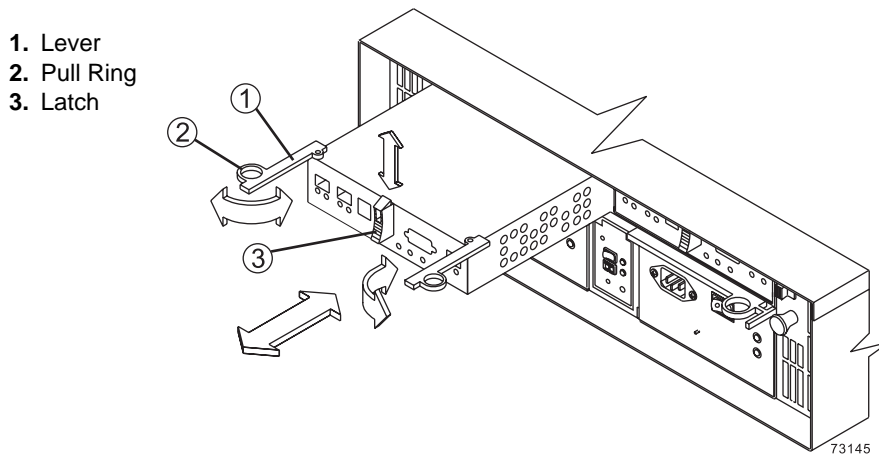

Figure 4-8 Removing and Replacing a Controller
- 9 Remove the failed controller. Figure 4-8 on page 4-10 illustrates the following steps:
- 12 Slide the replacement controller all the way into the empty slot and lock the levers into place. Figure 4-8 on page 4-10 illustrates installing a controller.